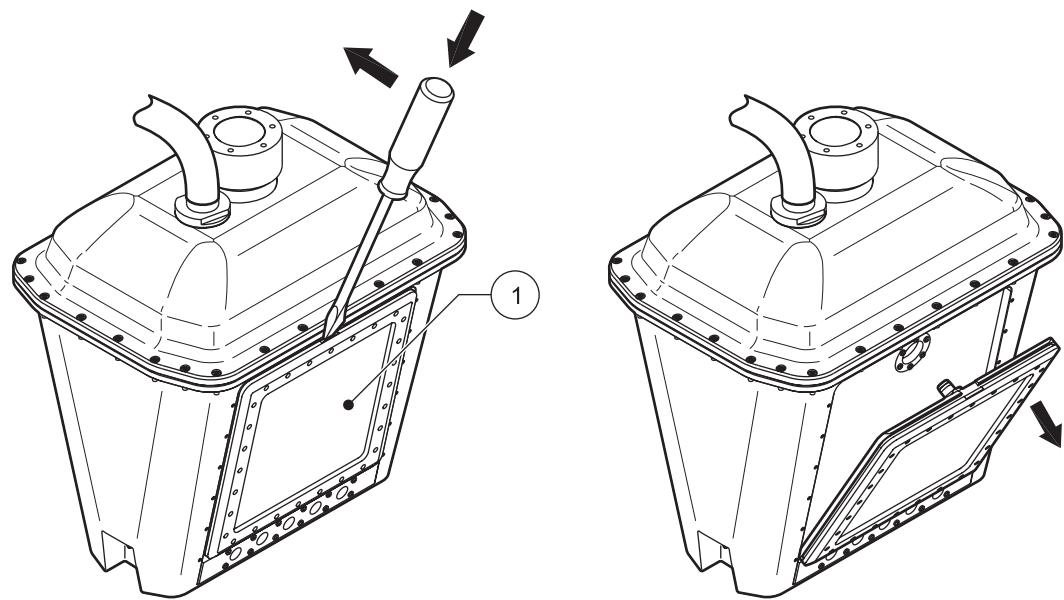

Figure 8 Removing the Filters
4. Carefully remove the filters from the holder using a screwdriver (Figure 8).